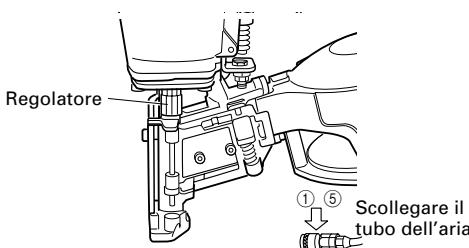

Fig. 8
① SCOLLEGARE IL TUBO DELL'ARIA DALLA CHIODATRICE (Fig.8)